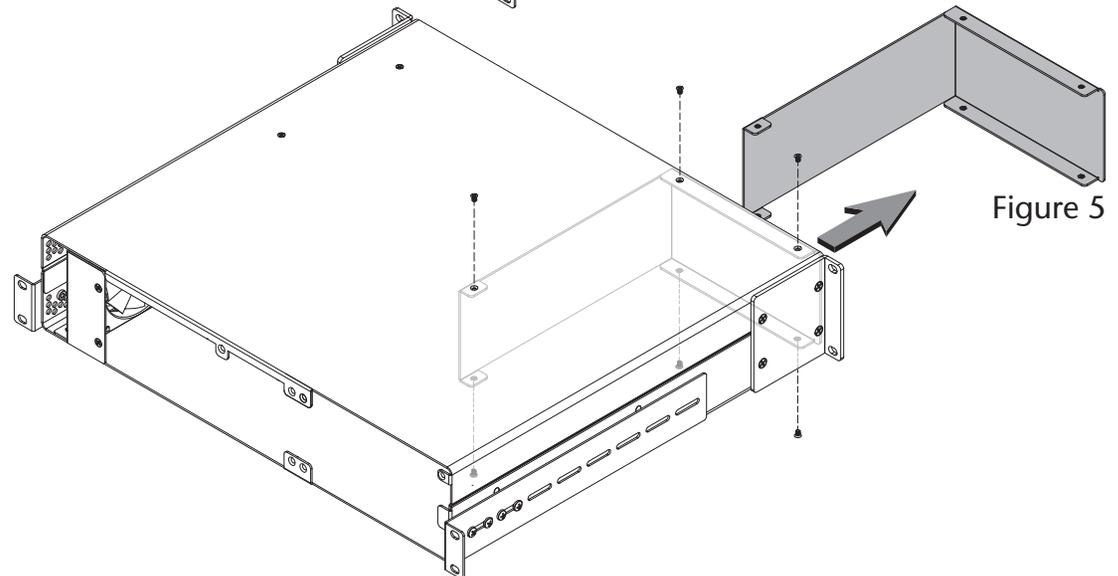

Figure 5
4. If you have not already done so, remove and set aside the six screws securing the blank plate inside the enclosure, and then remove and set aside the blank plate. (Figure 5).